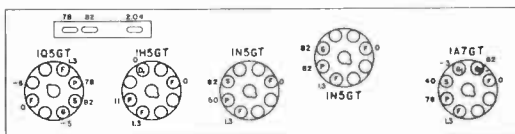

FIG. 5. SOCKET VOLTAGE DIAGRAM
*Voltage Measurements.* Figure 5 shows the socket voltage diagram, and the voltages given on it are measured between the points indicated and the chassis. The battery voltage is measured across the battery terminals, and the vibrator voltage measured from B+ to the chassis. Condenser C21A is a readily identifiable point across which the B+ measurement may be made.